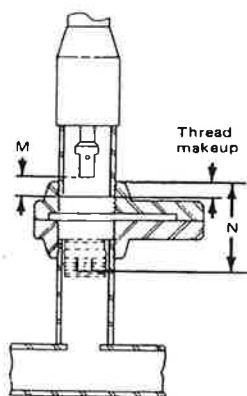

Figure 64. Threaded Valve Adapter Calculate Distance
- A. With boring bar fully retracted and feed tube at zero mark on body tube, calculate distance plug holder travels to contact bottom of recess in plug. See Figure 64 and 65.